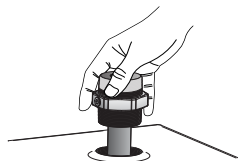

Figure 3
4. Wrap the upper threaded end of the tank adapter with three or four turns of thread tape and insert suction pipe / tank adapter into threaded tank opening (see Figure 3). Using a wrench, tighten the adapter snugly into the fuel tank.